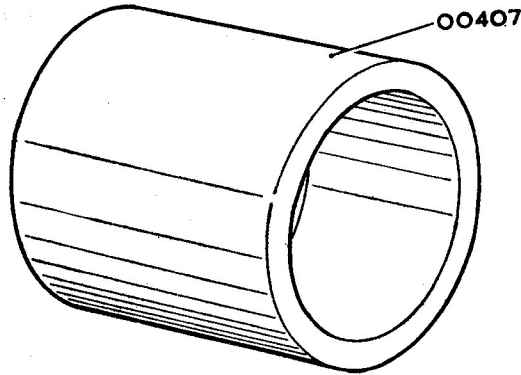

Fig. 5. Tool for pressing in bellows gland
28. Insert six of the nine short motor screws (51) with clamping ring and washers in lieu of end cover (108) and gasket (109). These screws should be equally spaced round the twelve holes of the stator housing and lightly tensioned. Apply Hermeticol to frame of metal bellows fuel sealing gland, and, using special tool 00407, (fig. 5) press home into casting.